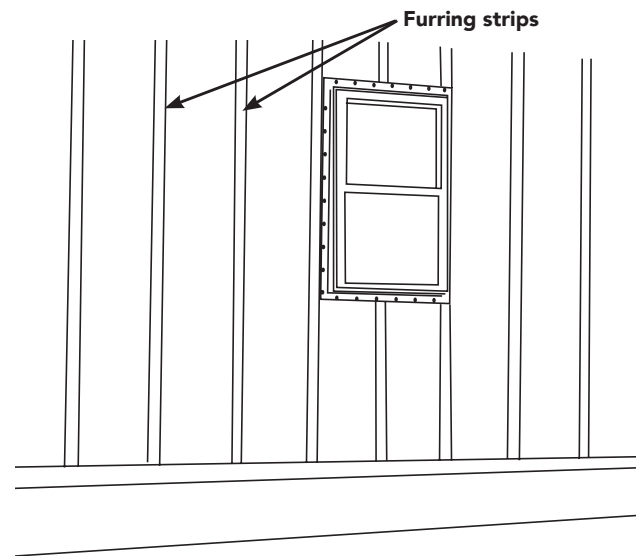

Figure 23
- Check all walls for evenness and install furring strips where necessary. When installing furring strips, please take appropriate measures to establish a smooth and continuous surface. (Figure 23).